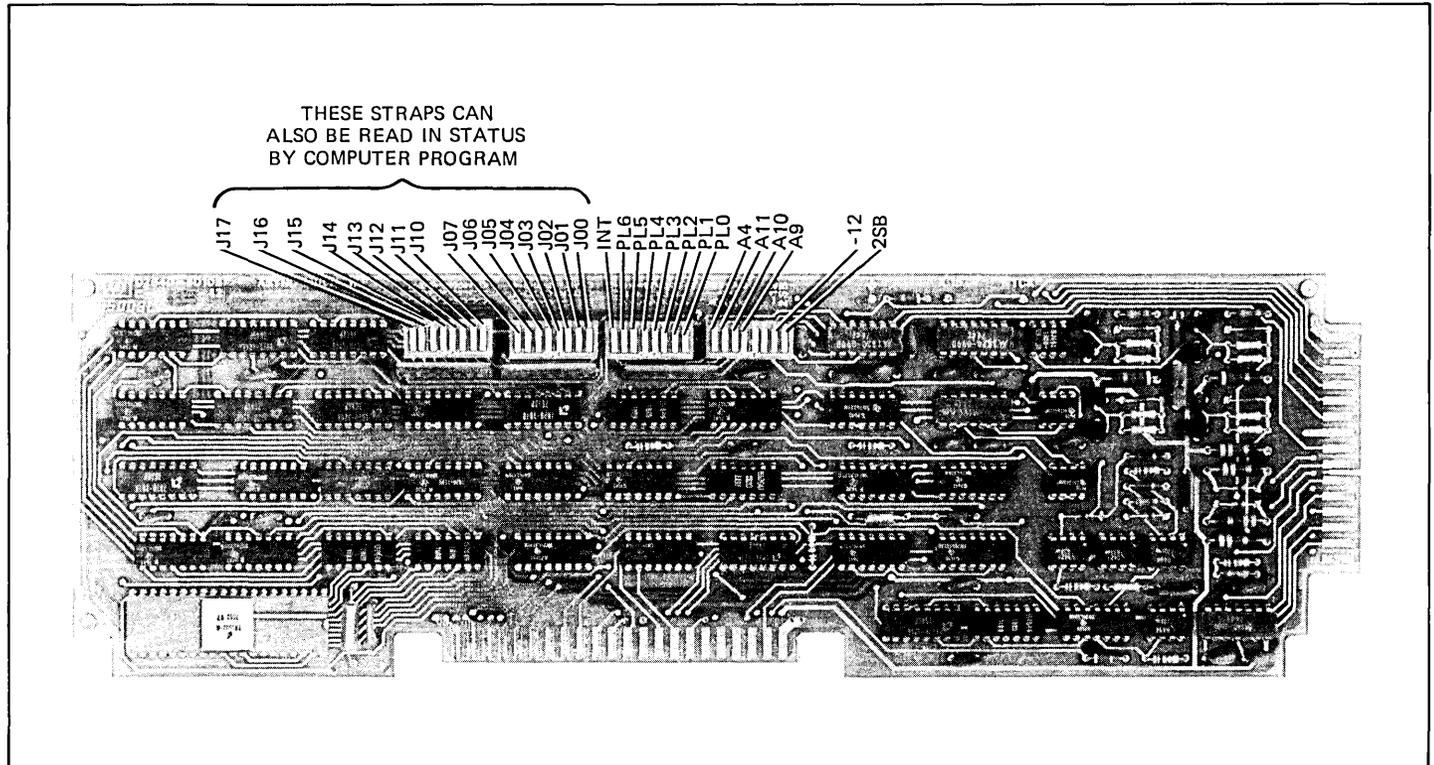

Figure 3-21. Asynchronous Multipoint Data Communications PCA Strapping Switch Locations
**ACCESSORY 13260C.** The Keyboard Interface PCA and data communications PCA 02640-60106 (figure 3-21) must be configured for Accessory 13260C.